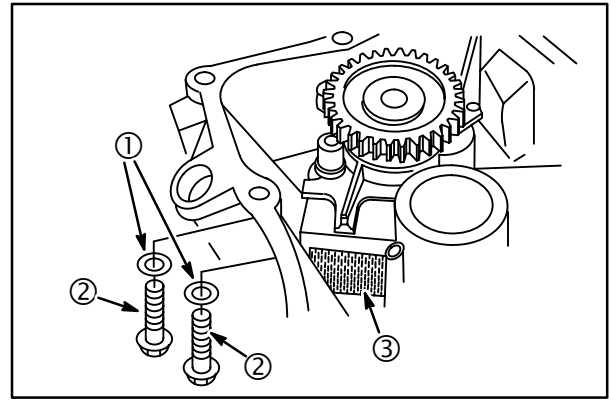

Fig. 7
1. Make sure the oil pickup screen (3) is clean and in position.
2. Place new O-rings (1) on the screws (2). Install to sump, **Fig. 7**.